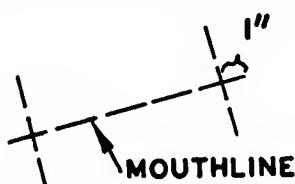

Fig. 126. Mark the mouthline.
- B. Mark the desired location with contrasting basting thread, extending 1 in. beyond each end of the mouthline (Fig. 126).
- C. Mark each end of the mouthline with vertical basting (Fig. 126).